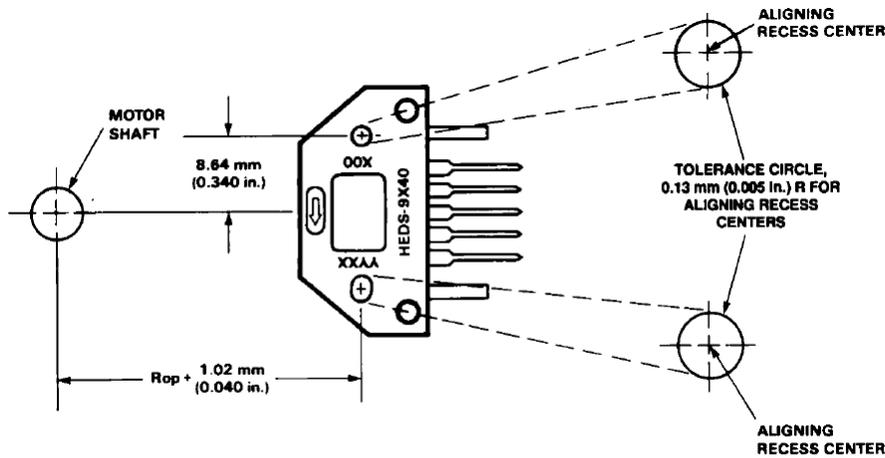
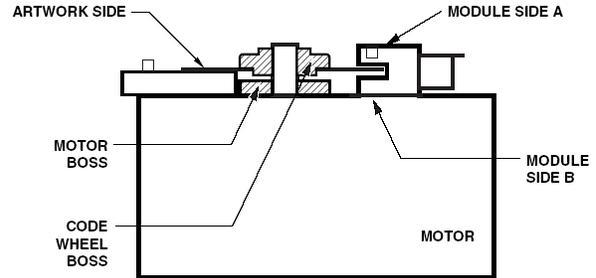

Figure 2. HEDS-9X40 Mounting Tolerance.
Figure 3. Alignment Tool is Used to Set Height of Codewheel.
Figure 2 shows a mounting tolerance *requirement* for proper operation of the HEDS-9040 and HEDS-9140. The Aligning Recess Centers must be located within a tolerance circle of 0.005 in. radius from the nominal locations. This tolerance must be maintained whether the module is mounted with side A as the mounting plane using aligning pins (see Figure 5), or mounted with Side B as the mounting plane using an alignment tool (see Figures 3 and 4).
2. Set codewheel height by placing alignment tool on motor base (pins facing up) flush up against the codewheel as shown in Figure 3. Tighten codewheel setscrew and remove alignment tool.